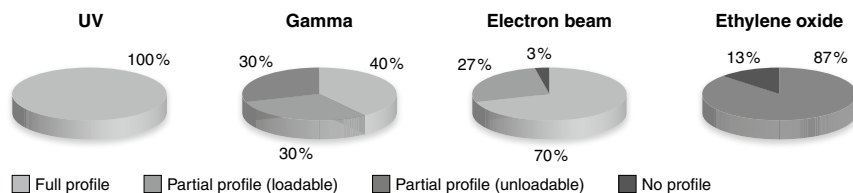

Figure 1 According to Shaw et al., 2008, Comparison of the effects of sterilization techniques on subsequent DNA profiling. *Int J Legal Med* 122: 29–33.
NucleoSpin® Tissue XS is often used in highly sensitive applications and therefore the manufacturing process was optimized to reduce the risk of DNA contamination. MACHEREY-NAGEL has a stringently controlled production process to avoid DNA contamination of consumables. Further, MACHEREY-NAGEL uses ethylene oxide (EO) treatment to remove amplifiable DNA, which might still be introduced during the manufacturing process. MACHEREY-NAGEL products carrying the ethylene oxide treated plastic materials seal, contain plastic materials that are EO treated. This means, DNA of any kind, which might still be introduced into plastic consumables during the production process, is inactivated by means of the treatment with ethylene oxide, in order to prevent the generation of accidental human profile by PCR amplification. Ethylene oxide treatment has been shown to be the method of choice to prevent DNA profiles due to DNA contamination (Shaw et al. 2008; Figure 1).
An elution volume of 20 μL is recommended by default although volumes as small as 5 μL are feasible. A reduction of the elution volume from 20 μL to 5 – 15 μL will increase DNA concentration whereas the total DNA yield is only slightly affected. An increase of the elution volume to 30 μL or more will slightly increase total DNA yield but will reduce DNA concentration. Figure 1 gives a graphic description of the correlation between elution volume and DNA concentration and will thus help you to find the optimized elution volume for your individual application.